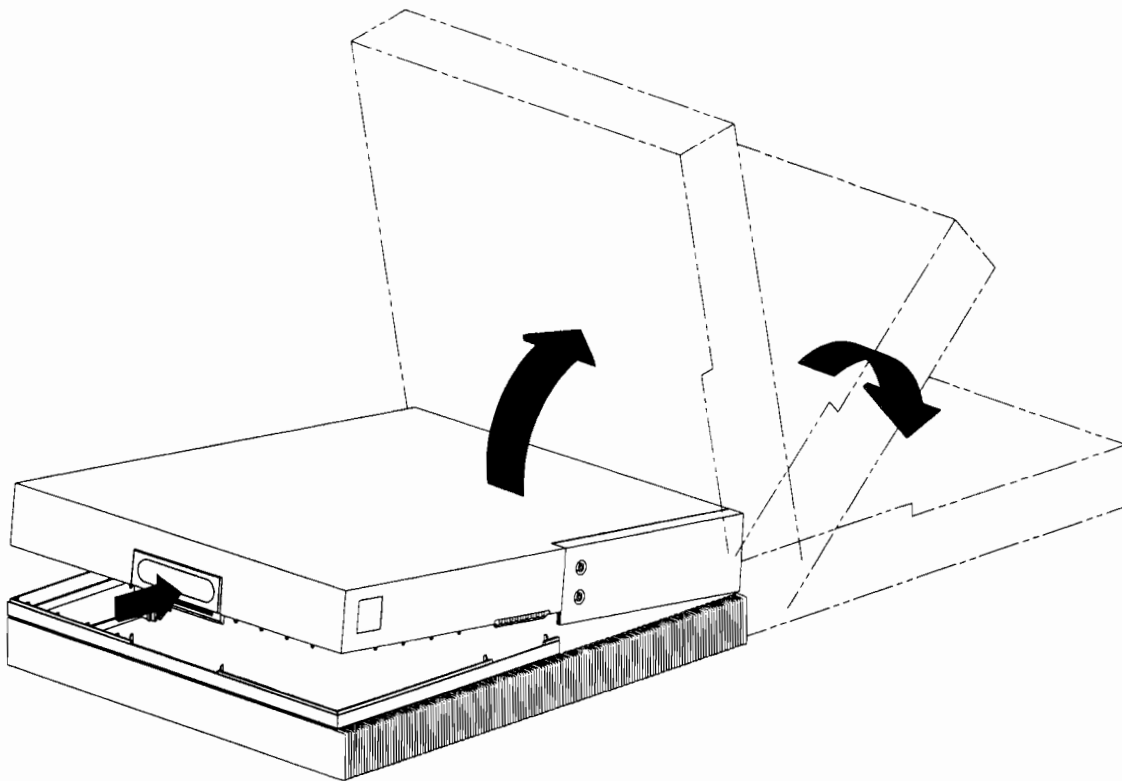

Figure B-4. Opening the System Unit
9. Push in the handle and carefully lift the top cover to fully open the system unit as shown in Figure B-4.